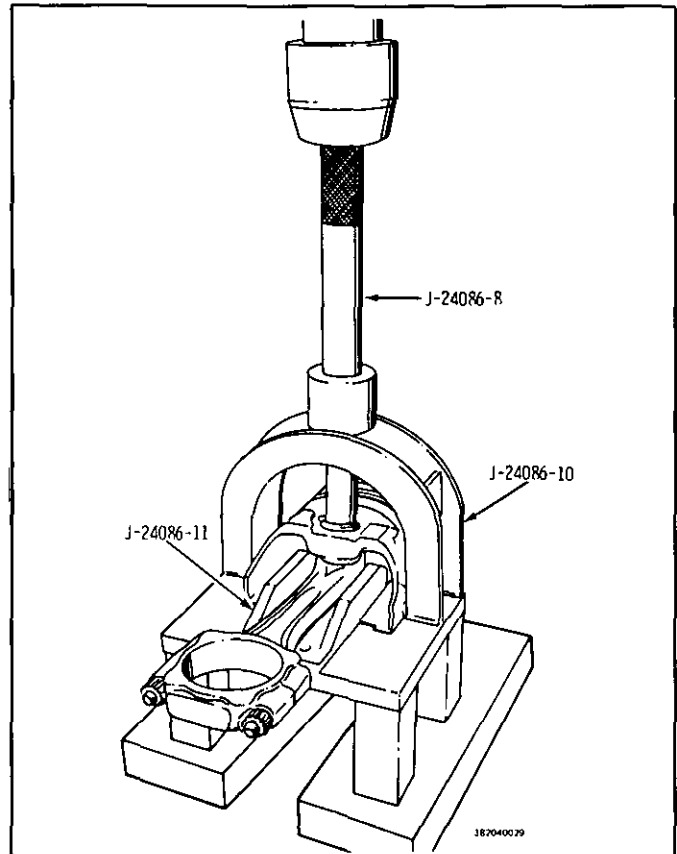

Figure 34 Removing Piston Pin Using Tool J-24086
2. Place the piston and connecting rod assembly into Fixture J-24086 and press out the piston pin (Figure 34).